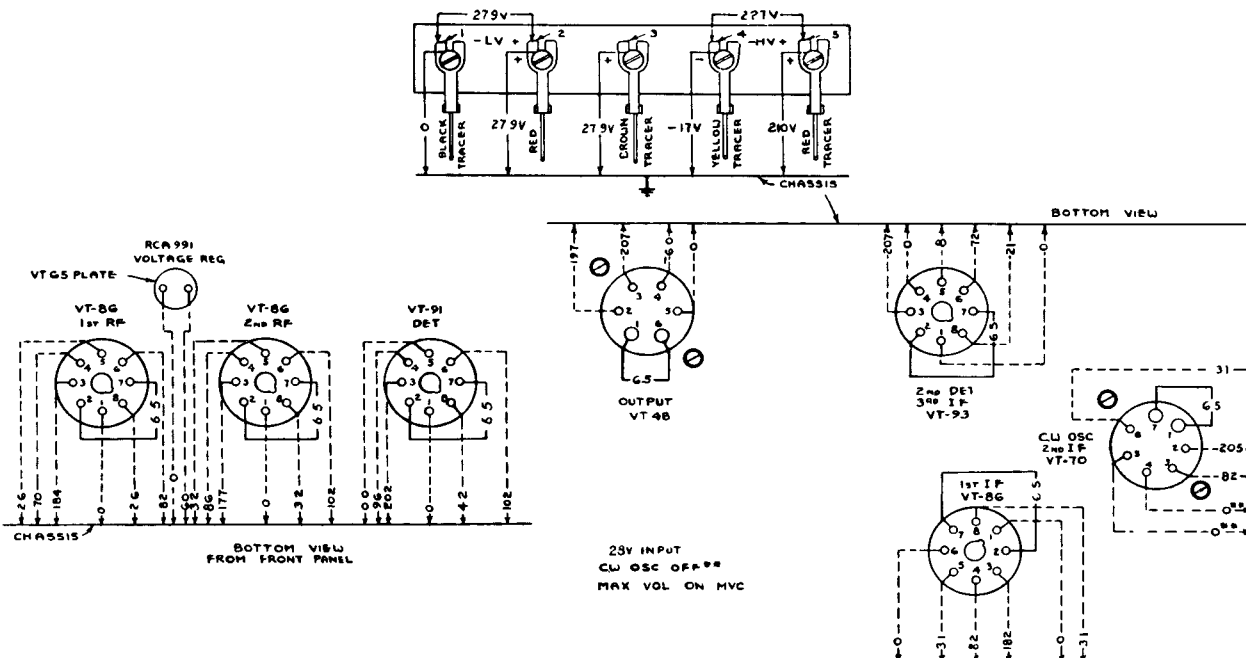

Figure 16 — Radio Receiver BC-348-(*)
(1) CHECK OF DYNAMOTOR VOLTAGES.—When all signals on all bands are weak or no signals are heard when known to be present, follow the procedure shown in the chart. The voltages checked at the dynamotor terminal board should closely approximate the values shown in figure 16. Conditions of measurement are as follows:
(2) TUBE CHECK.—If the voltages at the dynamotor terminal board approximate the values given, proceed to check all tubes for emission and characteristics or replace all tubes with those of known average characteristics.
(3) CHECK OF SOCKET VOLTAGES.—If tubes check satisfactorily, or if, after replacing with tubes known to be good, the sensitivity is still low, proceed to check all tube socket voltages with Test Set I-56-A as outlined in paragraph 14f. The average socket voltages are given in figure 16.
(4) CHECK CIRCUIT WIRING AND COMPONENTS.—If the tube socket voltages do not approximate the values shown in figure 16, check the associated circuits and components for grounds, shorts and similar defects.
(5) TEST OF AUDIO-FREQUENCY AMPLIFIER.—Having checked all socket voltages and found the values to be correct, proceed to the test of the audio frequency amplifier. This can be checked by capacitively coupling a 400-cycle voltage of approximately 2 volts rms between ground and the detector diode socket prong using a capacitor of 0.5 mfd. As an alternative, a modulated 915-kc signal of 2 volts may be coupled to this point and ground. Proper functioning of the audio amplifier will be indicated by an output well over 10 milliwatts for the 2-volt audio input or approximately 1 milliwatt output for 915-kc input. Check circuits, wiring and components if this order of response is not obtained.
(6) TEST OF I-F AMPLIFIER.—Following a satisfactory test of the audio amplifier, check the inter-